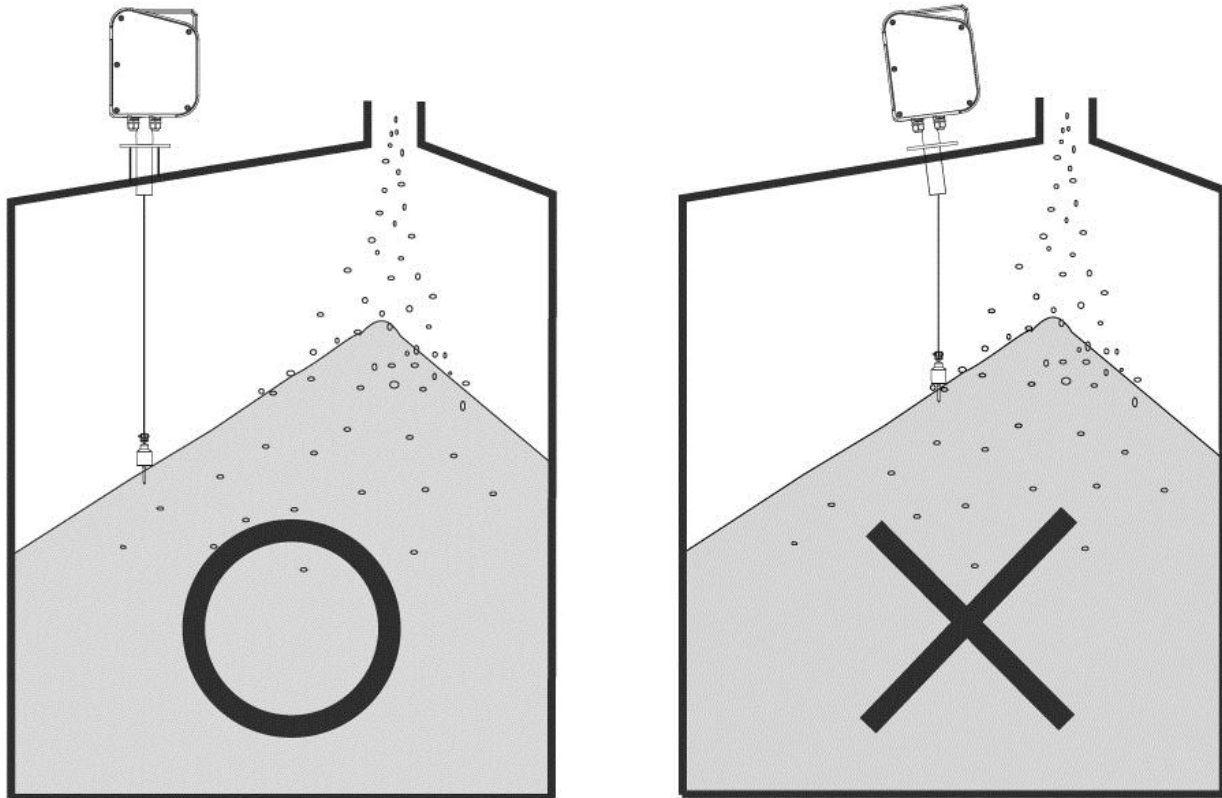

Figure 3: Mount the Model WC inventory sensor plumb/level
- 2. Mounting the Sensor “Plumb” / Level** - The Model WC inventory sensor must be mounted plumb so that the sensing weight and cable is perpendicular to level, within one degree. To assist in ensuring a level or plumb installation each Model WC is provided with a “bulls-eye” style level. Mounting the sensor so that the “bubble” in the bulls-eye level is directly in the center should achieve a level and plumb installation. Refer to Figure 3.